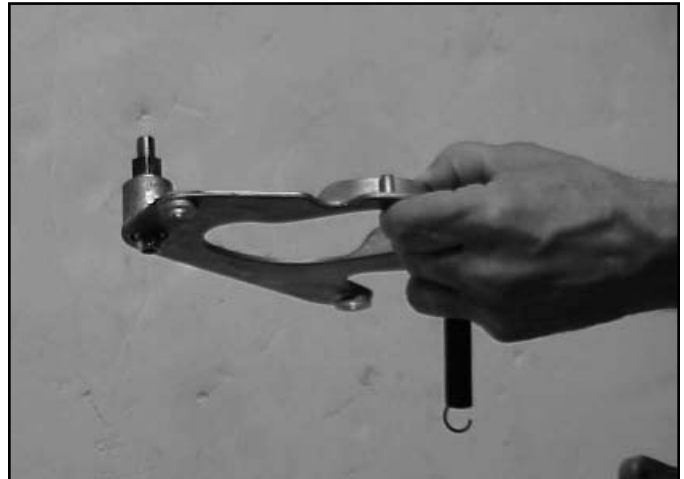

Fig 218
15. The anchor plate contains a pivot screw with a bushing. Remove the locknut (Fig. 218).